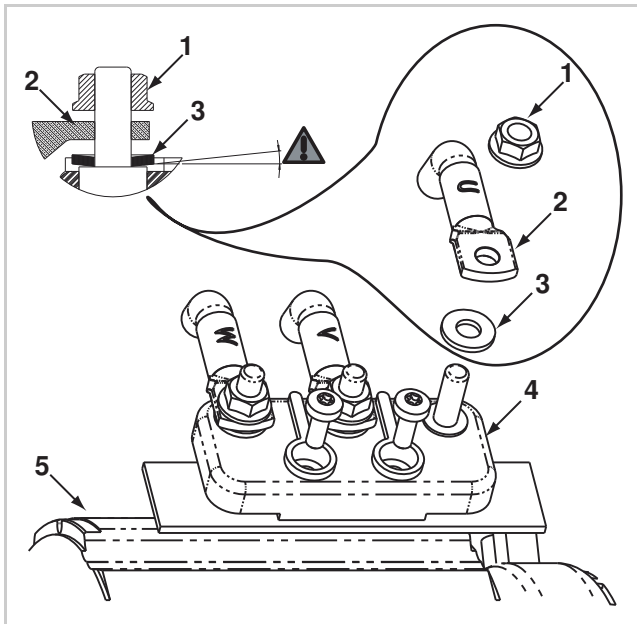

Fig. 116 Power cable
1. Insert the power cables (2) with references U, V, W in the adaptors of the terminal board (4).
2. Insert the curved washers (3) with the curve facing down (see Figure 116) into the adaptors of the terminal board (4).
3. Insert the nuts (1) and torque them to 8.1 - 9.9 Nm.